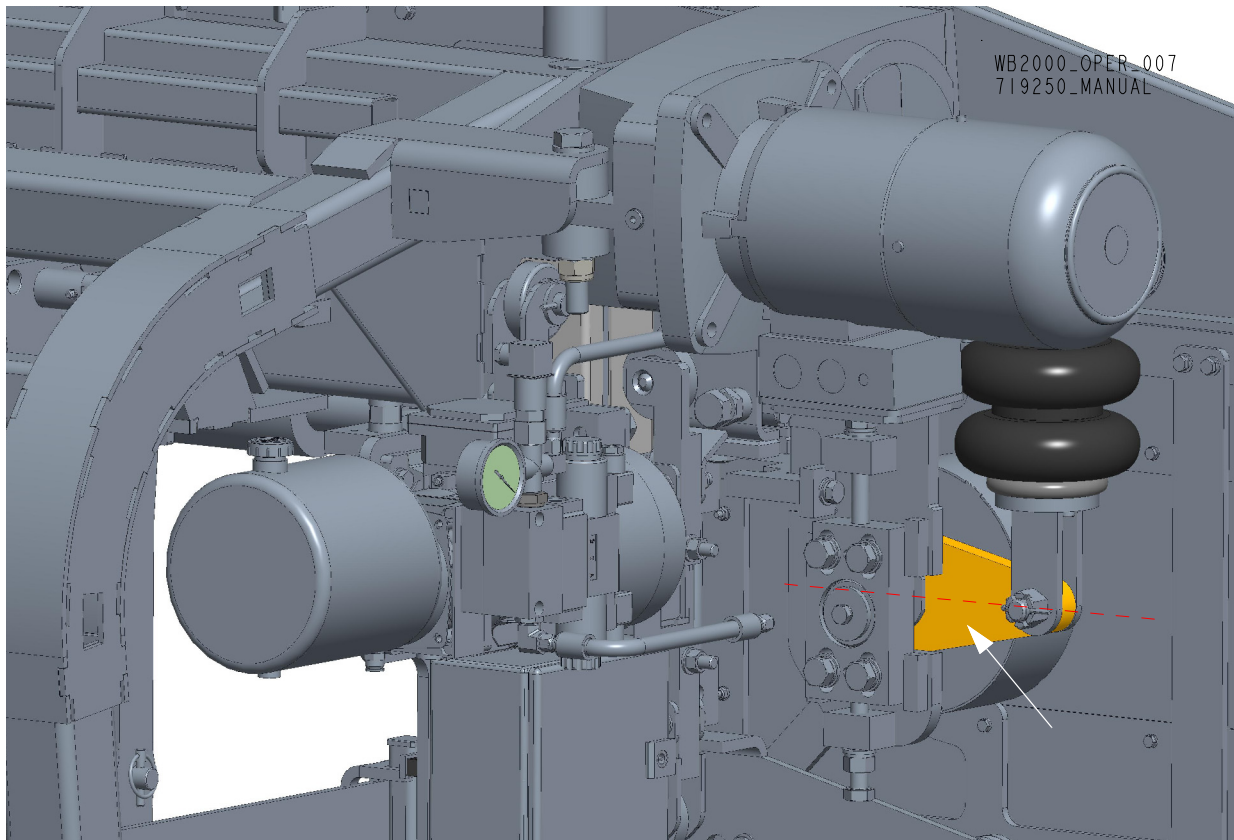

FIG. 3-23
See Figure 3-23
5. Use the cant adjustment nuts (**A,B**), shown in **Figure 3-23**, to adjust when the blade travels on the blade wheels.